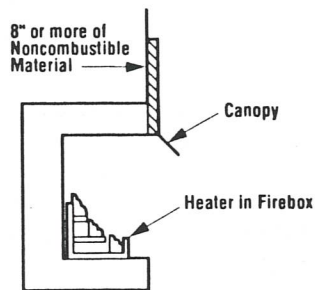

Figure 3
Step 3. Noncombustible material (minimum requirements) without wood mantel or other combustible projections: To install the firebox without wood mantel, shelf or other combustible projection above firebox opening, at least 8" of noncombustible material must be installed above the fireboxes described in this manual (*Figure 3*).